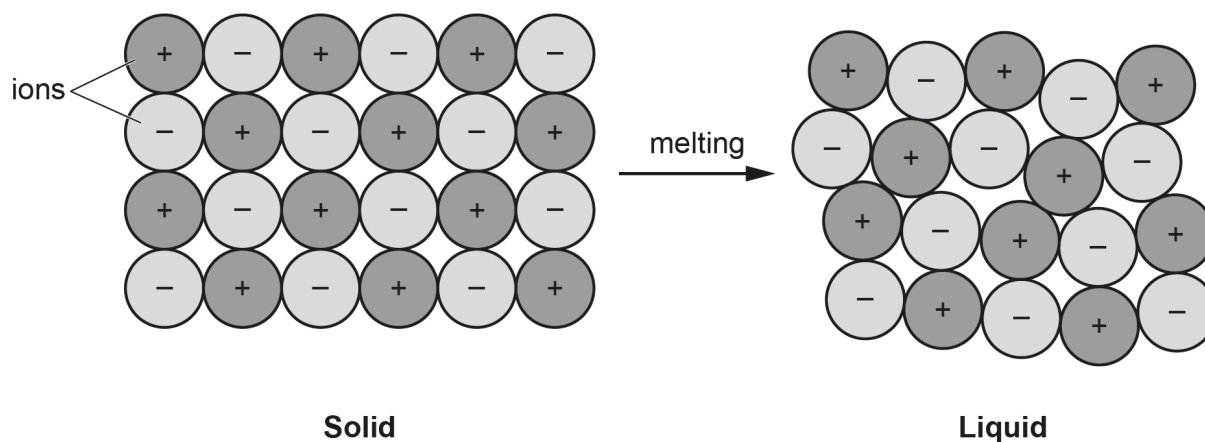

Fig. 1.1
- 1 **Fig. 1.1** shows a model for the arrangement of ions in an ionic compound when it is a solid and when it is a liquid.
(ii) A limitation of the model shown in **Fig. 1.1** is that it does **not** show the reasons why different compounds have different melting points.